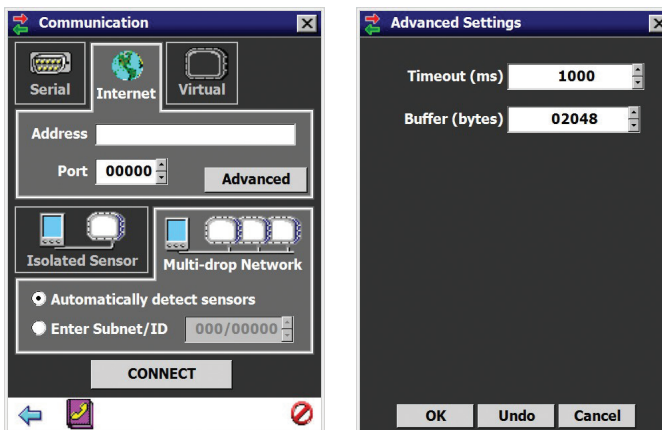

Figure 4.3 – Internet Connection (left) and Advanced Settings (right)
- 2 Click the Internet tab and the Internet setting options will appear (see Figure 4.3).